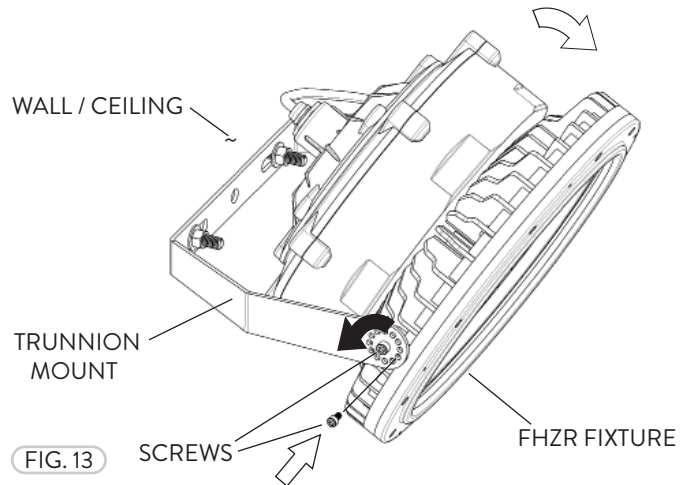

FIG. 13
- 5 Instead of having the fixture directly surface mounted at a fixed position, the FHZR fixture can be adjusted by loosening the large Screws and removing the smaller Screws at the sides of the of the Trunnion Mount. This allows the fixture to rotate to the desired tilt angle to aim at a specific position. Align the Trunnion Mount hole to the FHZR fixture hole. Insert and tighten the Screws (Fig. 13).